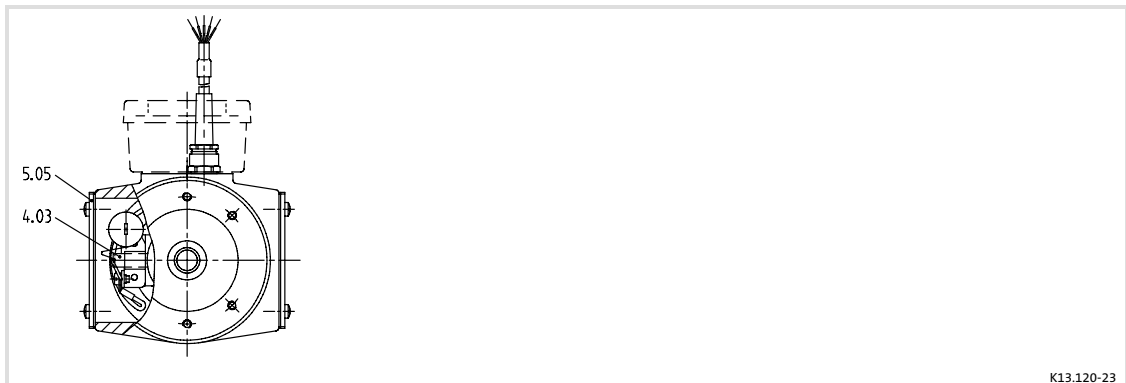

Fig. 14
1. Remove the carbon holder covers on the B-bearing shield (pos. 5.05 Fig. 14).
3. Remove the carbon brushes (see Fig. 14) from the guide sleeves,